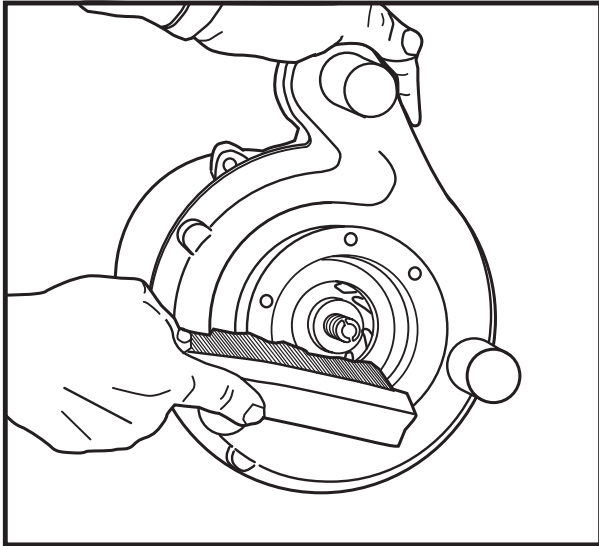

Fig. 5
6. Use wire brush and thoroughly clean any deposit from passage above grinder impeller and in cavity for grinder ring. See Figure 5.